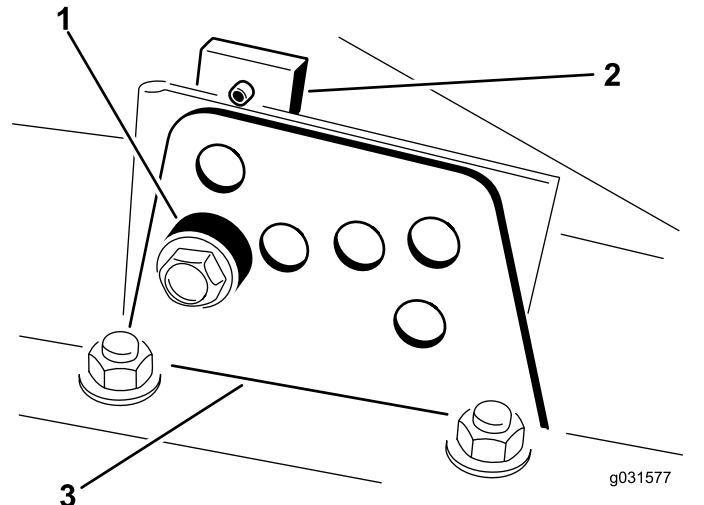

Figure 16
2. Loosen the bolt securing each height-of-cut bracket to the height-of-cut plate (front and each side) as shown in Figure 16.
4. While supporting the chamber, remove the spacer (Figure 16).